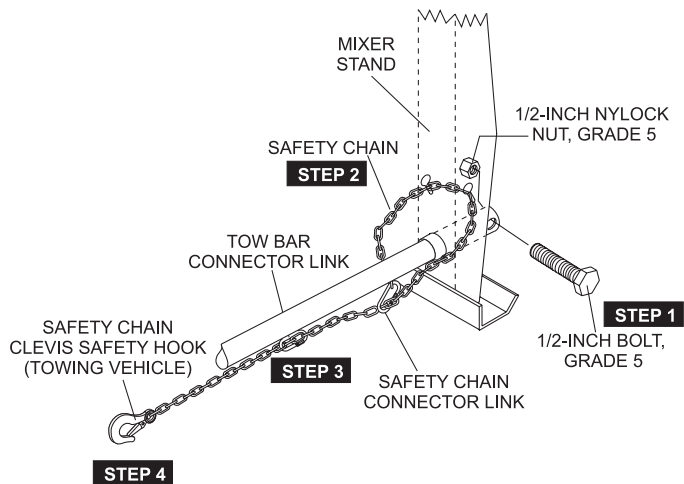

Figure 5. Mixer Safety Chain and Coupler
4. Attach safety chains as shown in Figure 5. Remember to **cross** the safety chains underneath the towpole of the mixer.
Reference Figure 5 for the installation of the *safety chain*.